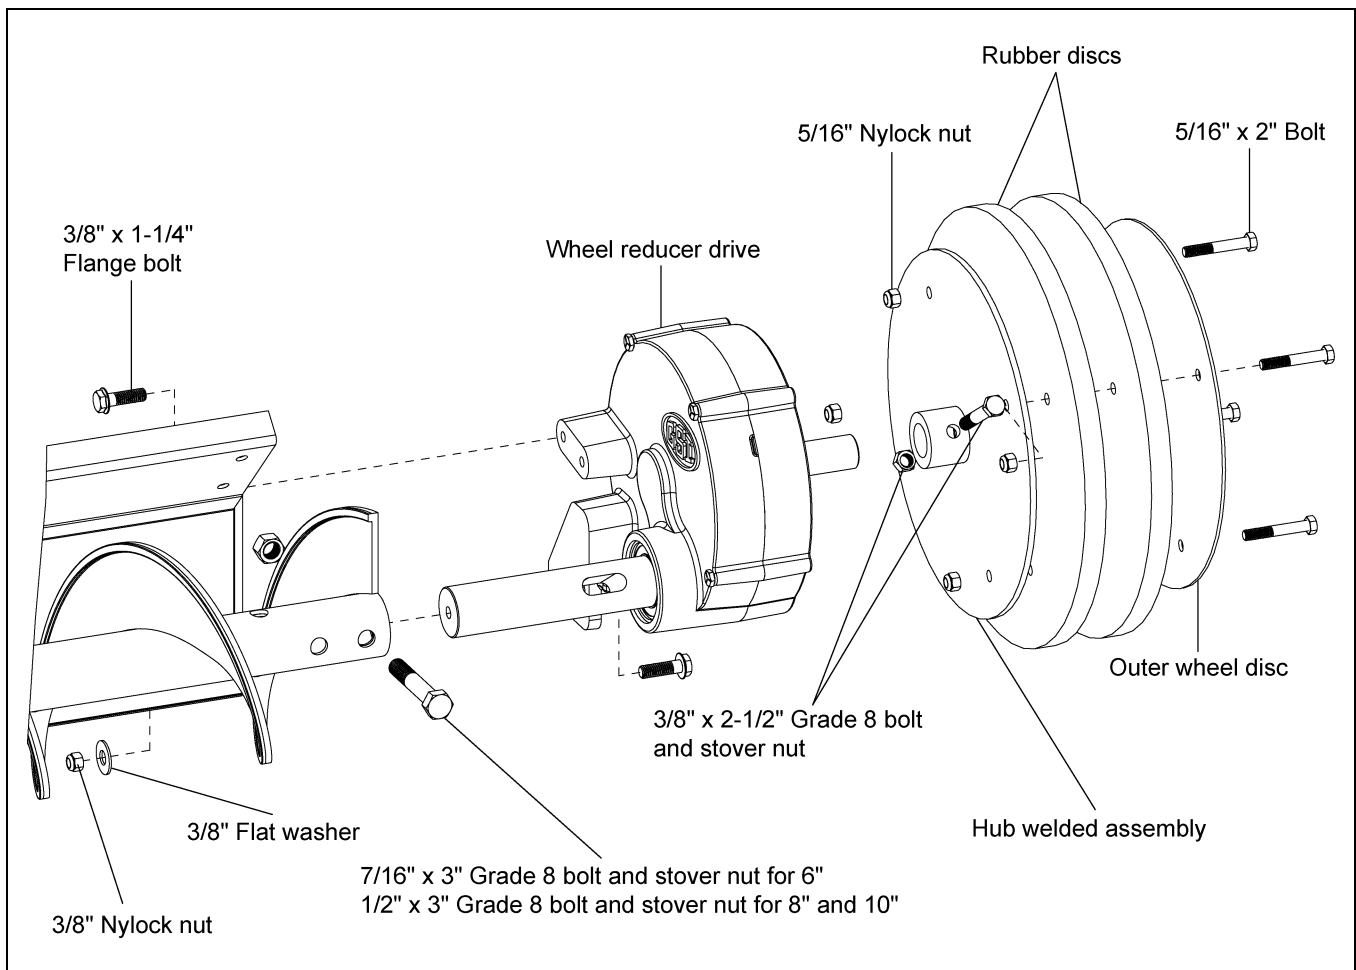

Figure 4F
1. Insert the input shaft of the reduction drive into the open end of the flight. Attach the drive to the flight with one $7/16"$ x 3" grade 8 bolt and stover nut for 6" or one $1/2"$ x 3" grade 8 bolt and stover nut for 8" and 10". (See Figure 4F.)
2. Mount the reducer to the back shield with two (2) $3/8"$ x $1-1/4"$ serrated flange bolts, one flat washer and nylock nut.
4. Attach the rubber discs and outer wheel disc to the wheel hub welded assembly with four (4) $5/16"$ x 2" grade 2 bolts and nylock nuts. (See Figure 4F.)